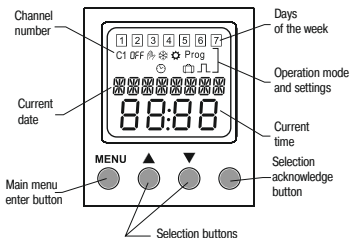

Figure 1 – Timer front panel
2.3 The front panel and the symbols displayed on the screen are shown in the figure 1 and in the table 3.